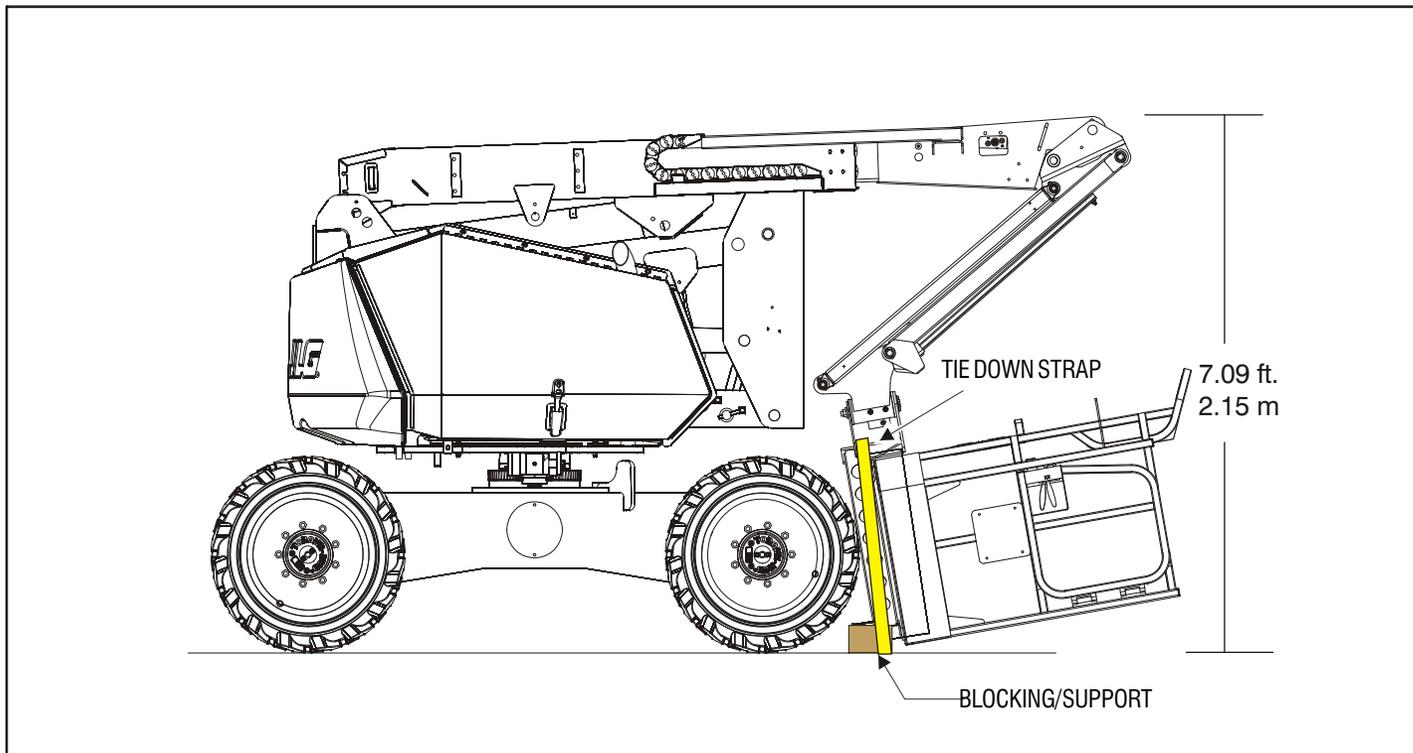

Figure 4-5. Storage Position
(See Figure 4-5.)
- 1. From the ground control station, raise the boom at least to the elevation shown in Figure 4-5. The boom must be raised to prevent the platform basket from hitting the ground during this procedure.
- 3. Place blocking under the platform support, lower the platform support down onto the blocking, and tie it down as shown in Figure 4-5.